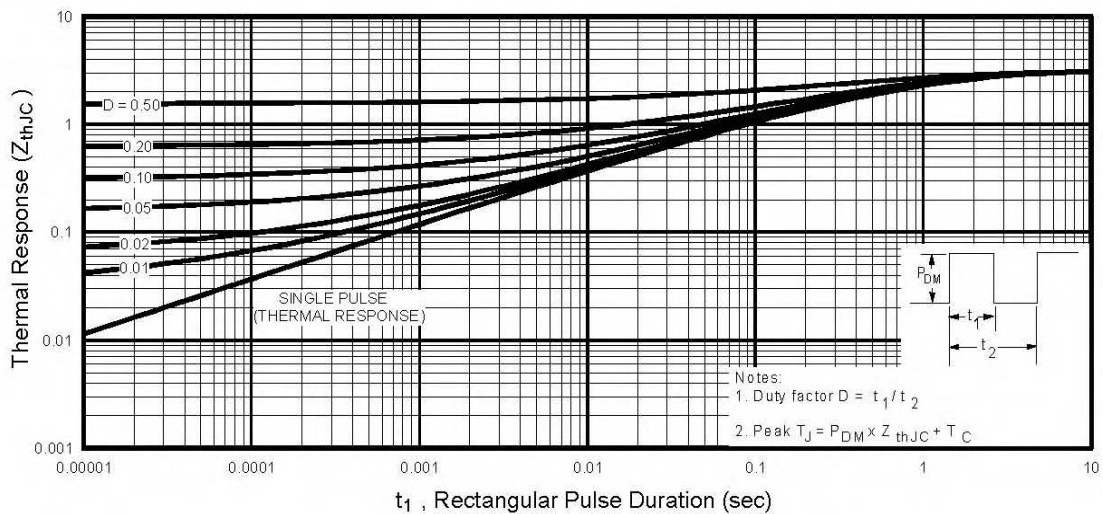

Fig 11. Maximum Effective Transient Thermal Impedance, Junction-to-Case
① Repetitive rating; pulse width limited by max. junction temperature. (See fig. 11)
③ $I_{SD} \leq 17A$, $di/dt \leq 150A/\mu s$, $V_{DD} \leq V_{(BR)DSS}$, $T_J \leq 150^\circ C$
⑤ $t = 60s$, $f = 60Hz$
② $V_{DD} = 25V$, starting $T_J = 25^\circ C$, $L = 4.4mH$